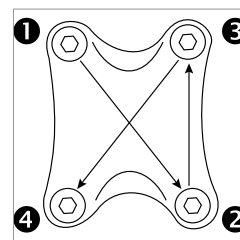

Figure 1
5. Set the torque wrench to the manufacturer's specifications. If no torque ratings are provided, set the torque wrench to 4–5Nm. Attach the correct hex-bit socket and tighten the faceplate bolts in half-turn increments using the following four-bolt tightening pattern (Fig. 1).